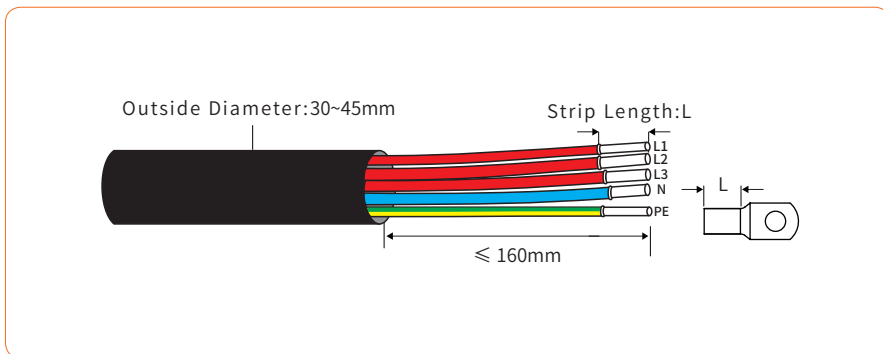

Figure 4-18
② Put the cable through the cable gland, and strip off the outer insulation sheath $\leq 160\text{mm}$, according to the size of OT/DT terminals to peel off a proper length of the 3L /PE / N wires, then insert the conductor core into the OT/DT terminals and press with a hydraulic clamp. As shown in Figure 4-18: